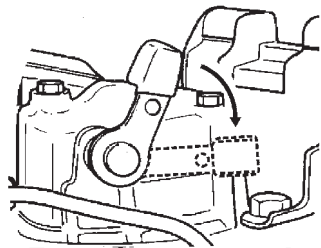

Figure 13. Decompression Lever
4. Push down decompression lever (Figure 13) and release.